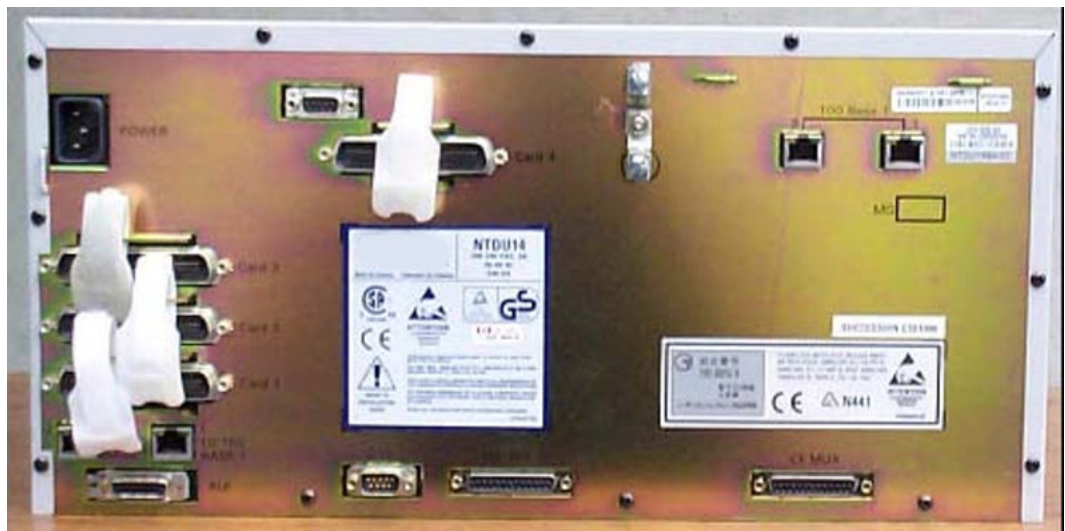

Figure 35: MG1000 chassis
1. Connect the MGC DECT Clock Reference Cable to the AUI port of the back of the MG1000 chassis. Figure 35: MG1000 chassis on page 174 shows the AUI port of the MG1000 chassis.